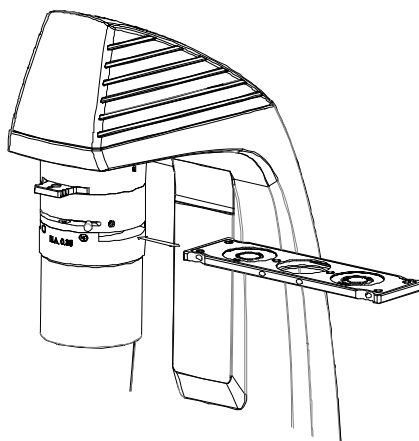

Fig.25 Phase Contrast Installation
- a. Make phase contrast slider right-side up, insert the slot. (Fig.25)